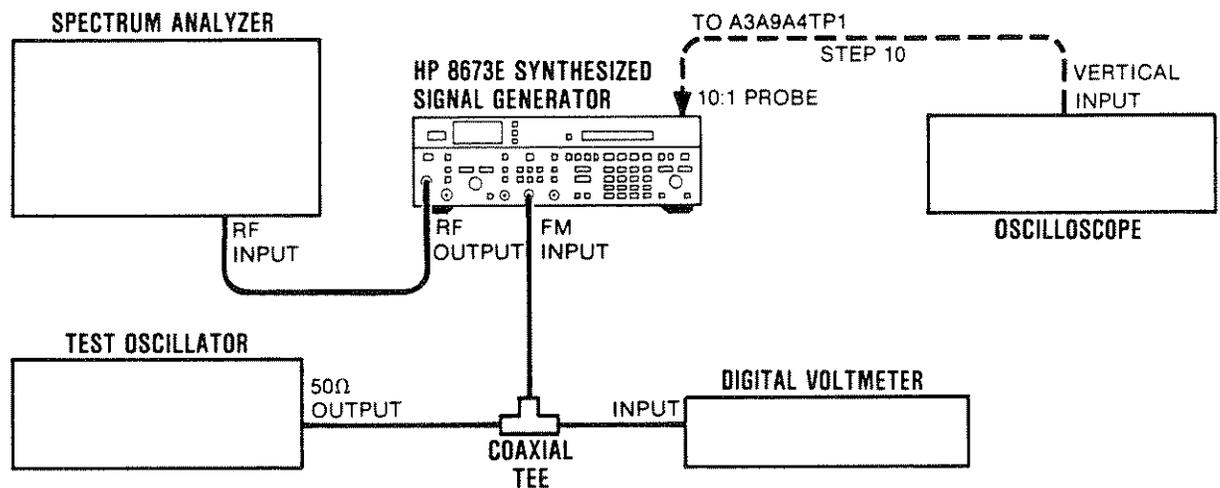

Figure 5-11. YTO Loop Offset and FM Overmodulation Adjustment Test Setup
4. Connect the equipment as shown in Figure 5-11. Connect the Signal Generator's mains power cord and set the LINE switch to ON.